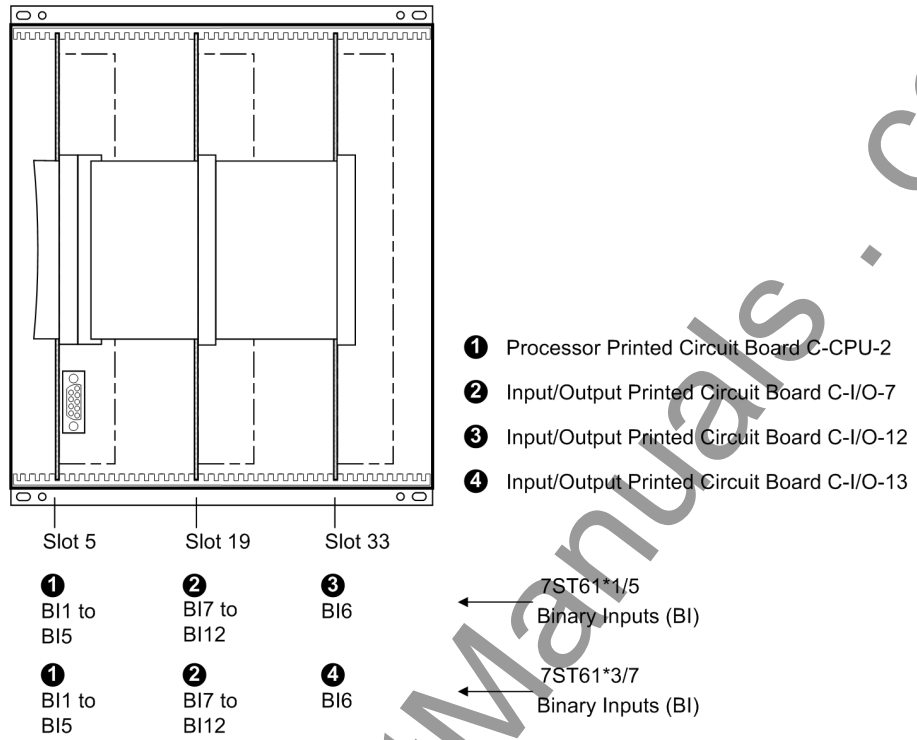
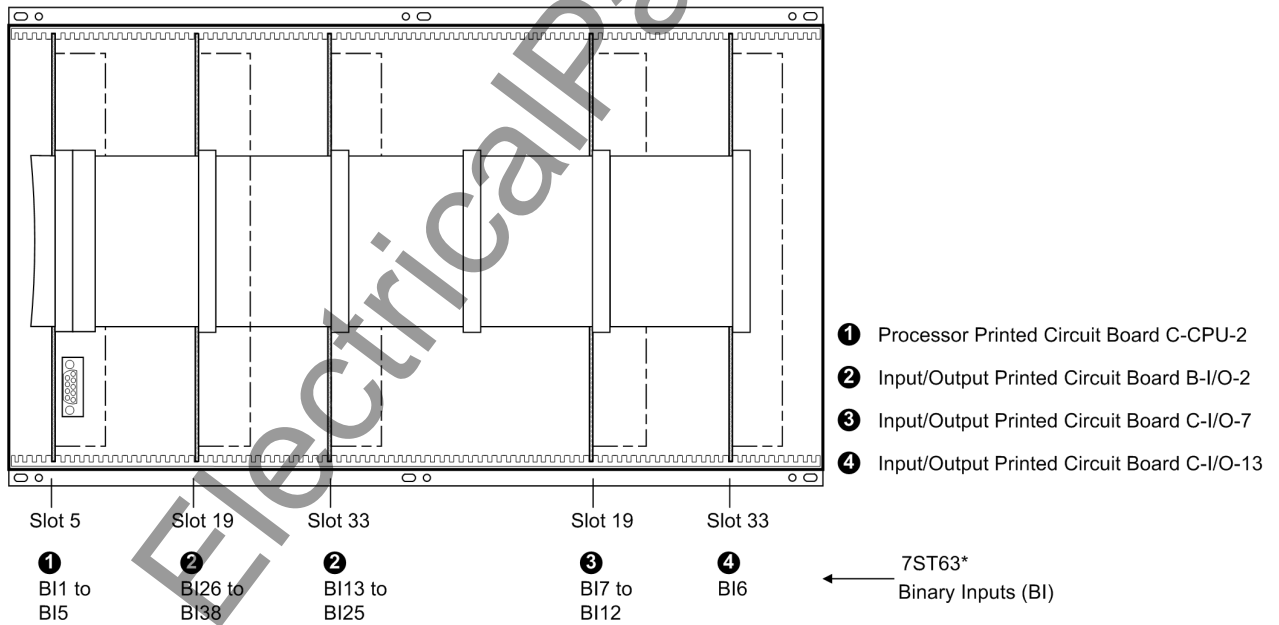

Figure 3-3 Front view with housing size $\frac{1}{2}$ after removal of the front cover (simplified and scaled down)
Figure 3-4 Front view with housing size $\frac{1}{1}$ after removal of the front cover (simplified and scaled down)
The assembly of the boards for the housing size $1/2$ is shown in Figure 3-3 and for the housing size $1/1$ in Figure 3-4.
- In versions 7ST6 1 * 1/5 (housing size $1/2$ with 26 binary outputs) this is valid for the binary outputs BO14, BO15, BO25 and BO26 (Figure 3-3, slot 19).
- In versions 7ST6 1 * 3/7 (housing size $1/2$ with 21 binary outputs) this is valid for the binary outputs BO9, BO10, BO20 and BO21 (Figure 3-3, slot 19).
- In versions 7ST6 3 (housing size $1/1$ with 35 binary outputs) this is valid for the binary outputs BO9, BO10, BO20 and BO21 (Figure 3-4, slot 19).
The mounting locations are shown in Figures 3-3 to 3-4.